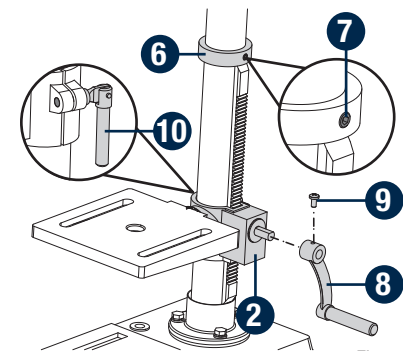

Fig. 5
- Insert the table support crank handle (8) into the worm gear shaft on the side of the table support (2). Make sure the set screw (9) is aligned on the flat of the shaft and as close to the table support as possible. Tighten the set screw (Fig. 5).
- Position the table in the same direction as the base, and tighten the column lock handle (10).